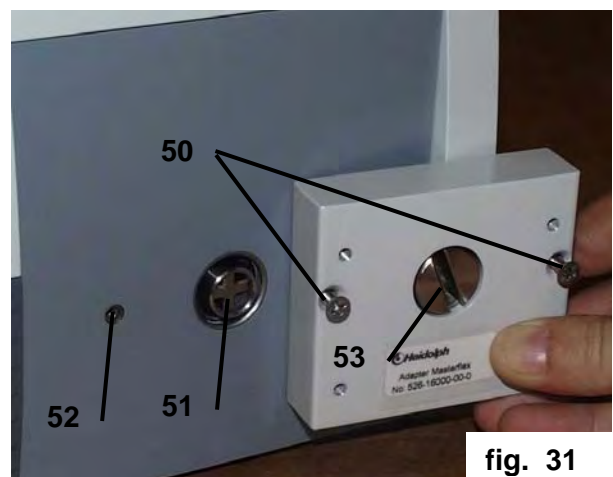

fig. 31
4.1. Install multi-channel adapter on pump drive (fig. 31)
- To install pump head on pump drive, align follower pin (54) with slot in multi-channel adapter (53, fig. 31).